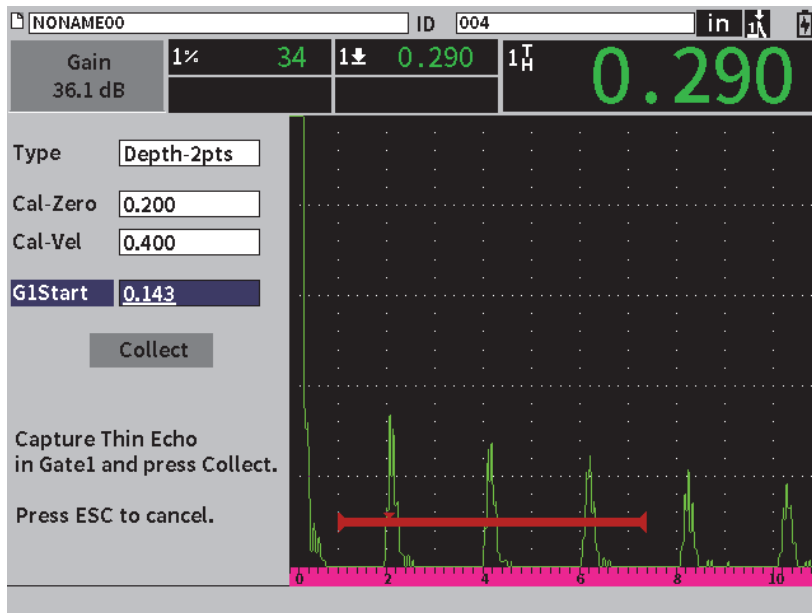

Figure 8-3 Calibration — Dialog box initial setup
3. On the setup menu, select the **Calibrate** icon () to open the calibration dialog box (see Figure 8-3 on page 95).